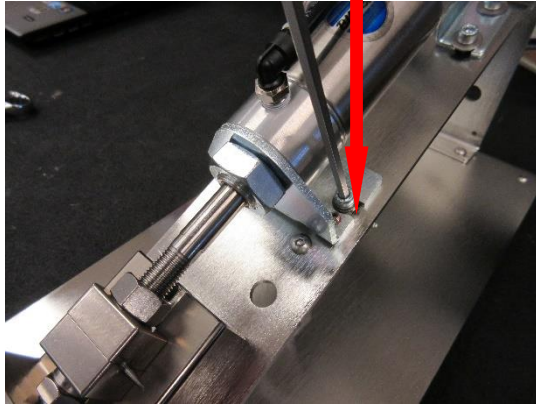
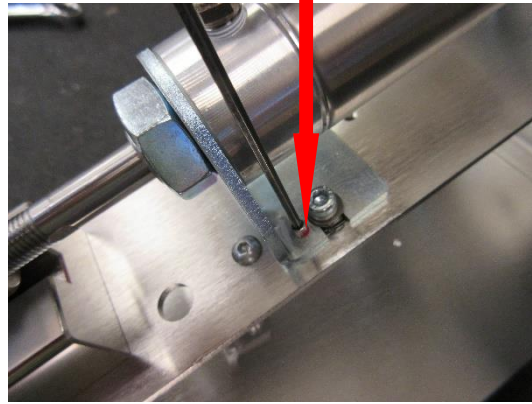

Figure 3.4.9
Figure 3.4.10
- **Note:** If the cylinder shaft won't retract when being cycled the adjustment of both set screws on the front cylinder mount bracket will need to be adjusted. To make the adjustment you must first loosen the two 5x12mm screws using a 3mm hex wrench (*Figure 3.4.9*) and then by adjusting the two set screws using a 3/32nd hex wrench. *Figure 3.4.10*. Now tighten the two 5x12mm screws and ensure jaw alignment.